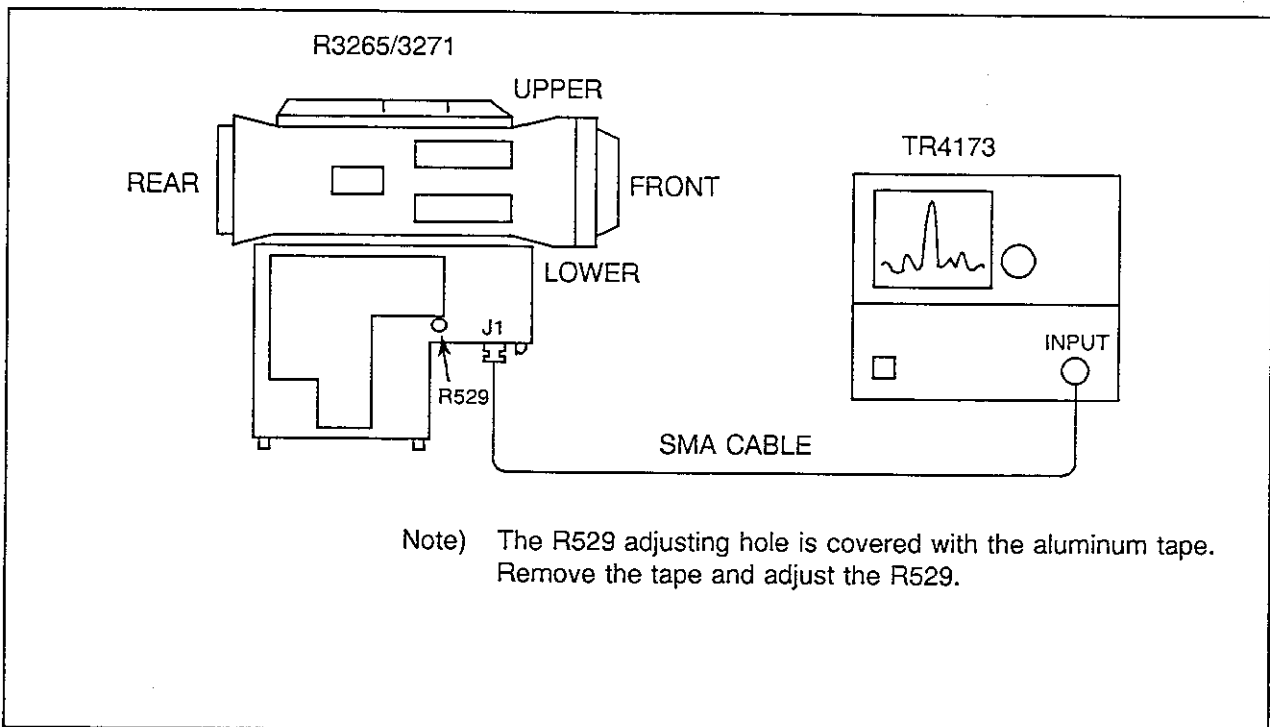

Figure 5-17 Sampler Synthe Adjustment
- (1) Remove the cover from the system.
- (2) Remove three screws from the synthesizer board.
- (3) Unplug the SMA connector from J1.
- (4) Connect the SMA cable between J1 and TR4173 (see Figure 5-17).
- (5) Turn on the POWER switch of R3265/3271, and set the controls as follows: